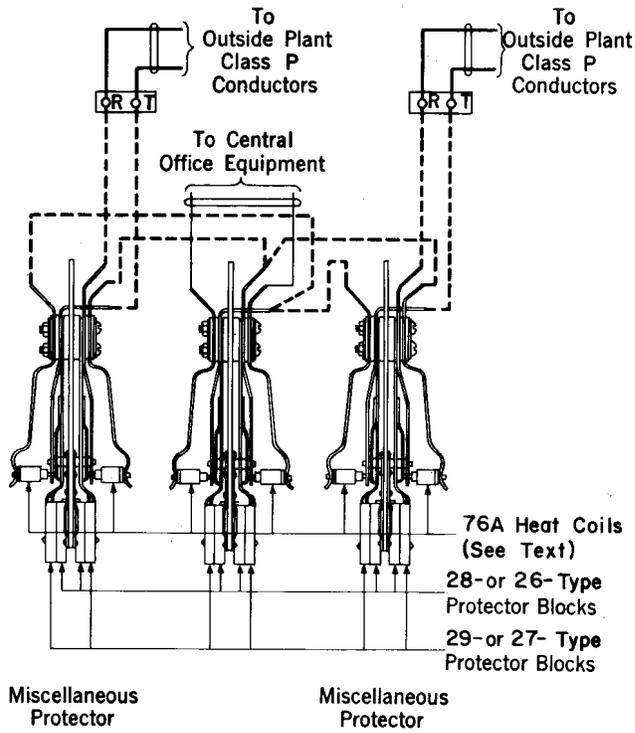
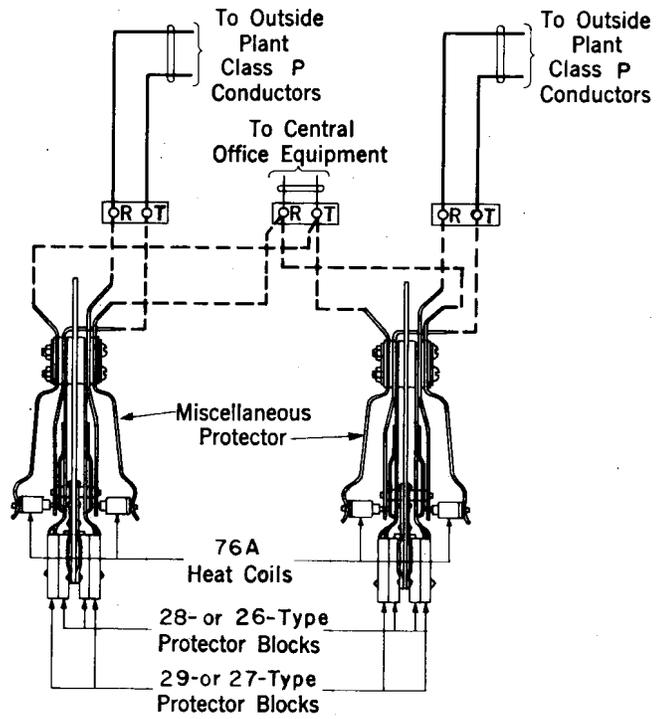

Fig. 4—Class P Conductors-Circuit Requiring More Than One Pair of Conductors
Fig. 5—Class P Conductors Terminated on Terminal Strip and Requiring More Than One Pair of Conductors
6.11 To use more than one pair of conductors for a circuit, each pair of conductors shall be cross-connected to a separate protector mounting equipped with protector blocks and heat coils. The equipment terminals of the protectors shall be cross-connected to the protector mounting associated with the central office circuit (Fig. 4). The protector permanently wired to the central office equipment should ordinarily be equipped with dummy metal heat coils except where this might lead to accidentally omitting heat coils of adjacent class P conductors. Where the central office circuit terminates on terminal strips instead of protector mountings, the cross-connections from the miscellaneous protectors (Fig. 5) shall be connected directly to the terminals.
6.21 Where it is necessary to bridge cable conductors looping through an office and where the bridged circuit is cabled to protectors, protection shall be provided as shown in Fig. 4. The protector permanently wired to the central office equipment should ordinarily be equipped with dummy metal heat coils except where this might lead to accidentally omitting heat coils of adjacent class P conductors. Where the circuit terminates on terminal strips, protection shall be provided as shown in Fig. 5.